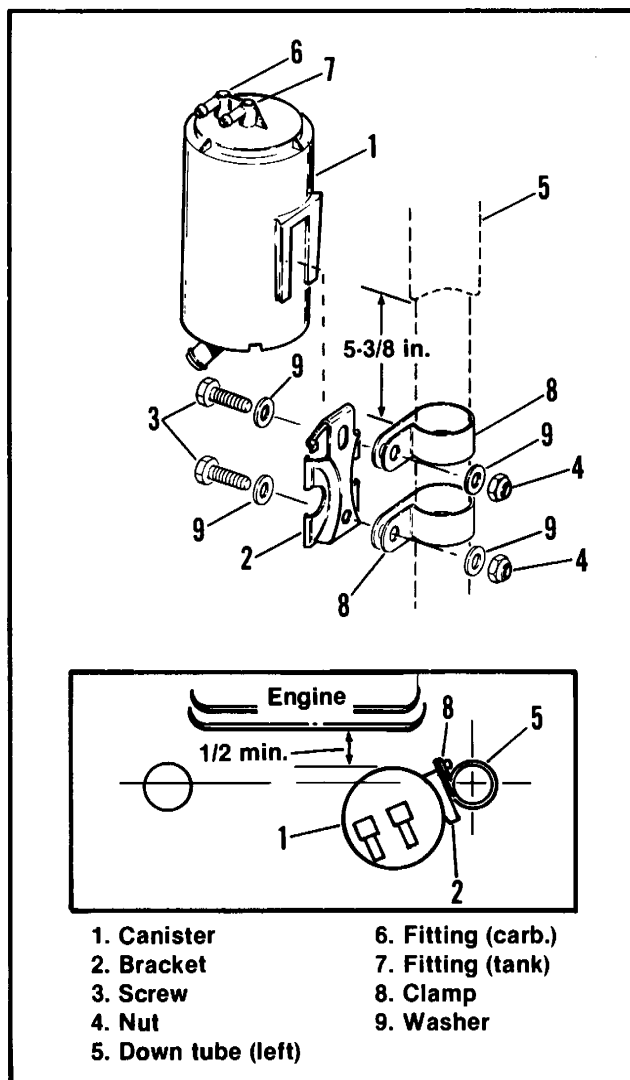
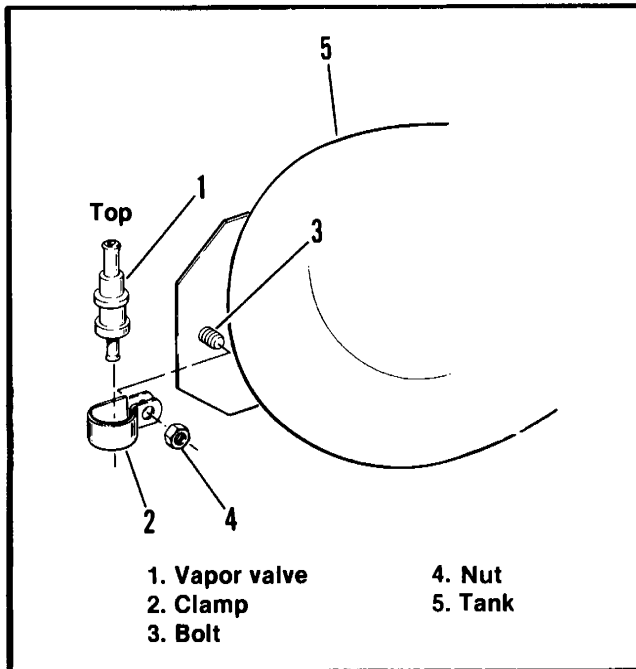

Figure 4-54. Canister Mounting
Figure 4-55. Flow Valve Mounting
1. See Figure 4-54. Place two clamps (8) around left downtube with the top clamp approximately 5-3/8 in. down from steering head stamping as shown.
2. Position bracket (2) against clamps (8) and attach with screws (3), washers (9) and nuts (4). Do not fully tighten.
3. Insert canister (1) into bracket (2). If canister is loose, compress bracket sides slightly with channel lock pliers to tighten.
5. See Figure 4-55. Remove nut (4) from tank mounting bolt (3).
6. Place valve (1) in clamp being sure valve is right side up (longer fitting upward) as shown in Figure 4-55.
5. See Figure 4-55. On FXR, FXRS/SE, FXLR, remove nut (4) from tank mounting bolt (3).
7. Place valve (1) in clamp (2) being sure valve is right side up (longer fitting upward) as shown.